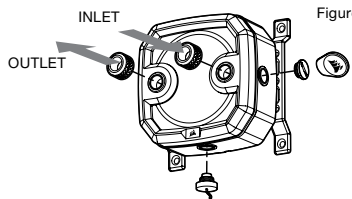

Figure 1
1. Install the two (2) appropriate CORSAIR XF G1/4" BSPF threaded-type fittings (not included) into the reservoir ports and tighten them by hand. Do not use any tools (i.e. pliers) (Figure 1).